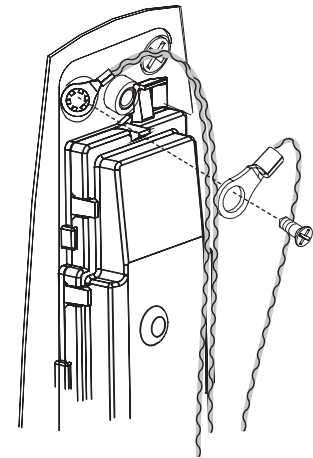

Fig. 11B
- Twist into place, perpendicular with door (Fig. 11B).
- Position two-wire green/yellow ground wire ring terminal (from lock body) over hole for top left screw (Fig. 11B, C).
**IMPORTANT:** Note orientation of ground ring terminals in Fig. 11B-D.